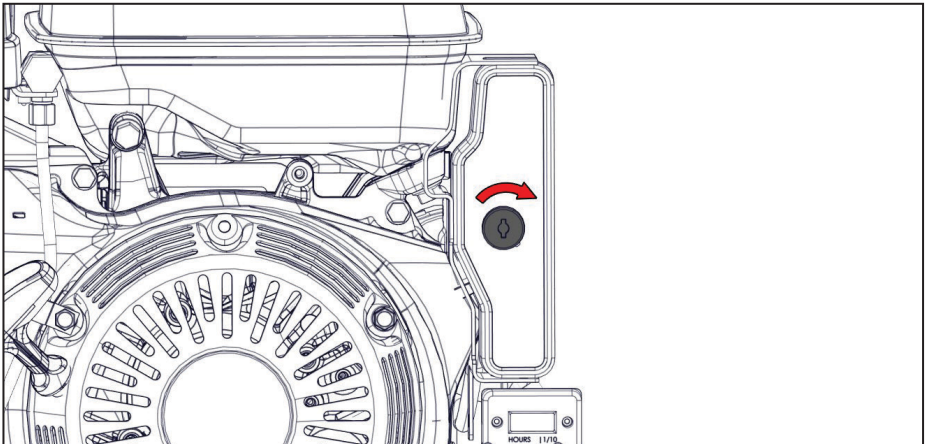

Figure 13 — Key switch
5) Turn the ignition key switch to the "START" position and hold it there until the engine starts (maximum of 5 seconds) (Figure 13).